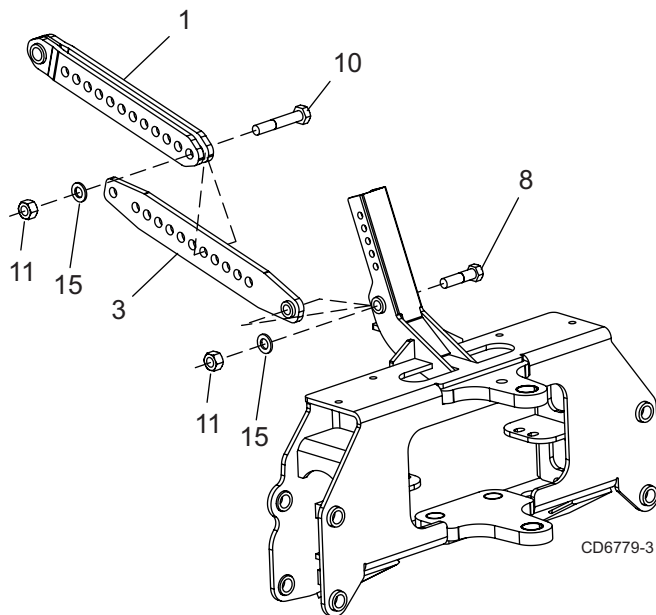

Figure 3. Top Link Bars Installation
1. Attach top link bar (3) to the main frame using cap screw (8), hardened flat washer (15), and hex nut (11).
2. Slide double top link (1) over top link bar (3) and secure using cap screw (10), hardened flat washer (15), and hex nut (11) through end hole on double top link. See Figure 3.